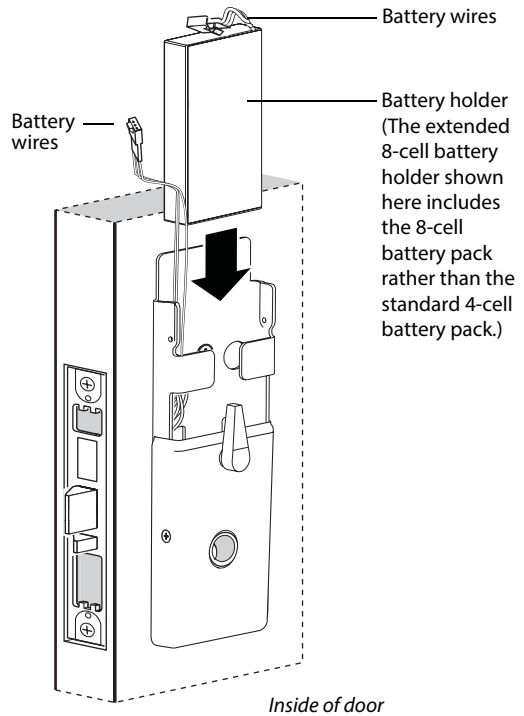

Figure 15 Installing the battery holder
- 1 Position the battery wires against the fire plate side wall, as shown in Figure 15.